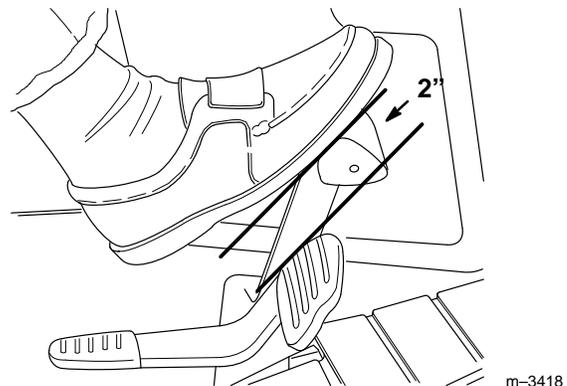

Figure 35
3. Depress the brake pedal. There should be 2” (51 mm) of free travel (Fig. 35) before the brake begins to engage.